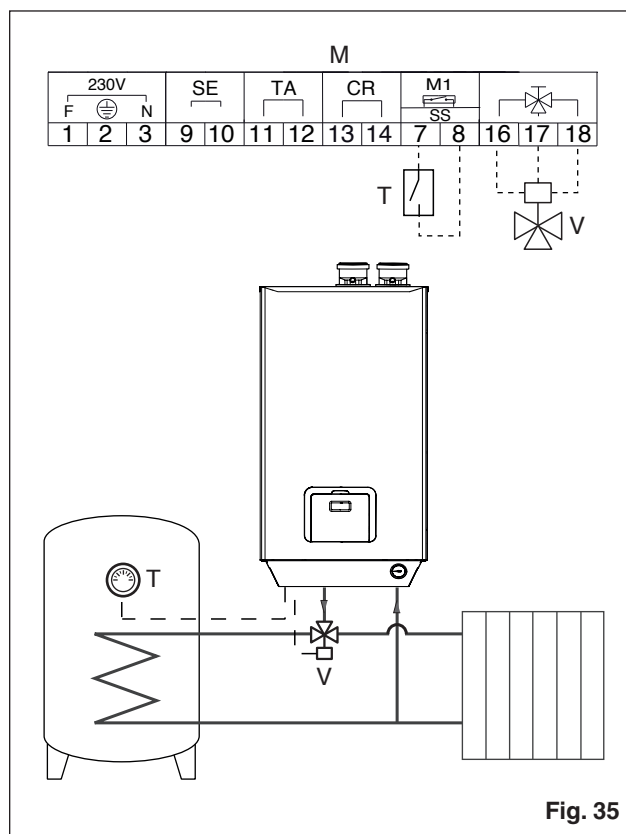

Fig. 35
- complete the water circuit shown in Fig. 35
- connect the electrical connections for the diverter valve (V) to contacts 16, 17 and 18 on the boiler's terminal board (M)
- connect the contacts for the storage tank's adjustment thermostat (T) to contacts 7 and 8 on the boiler's terminal board (M)